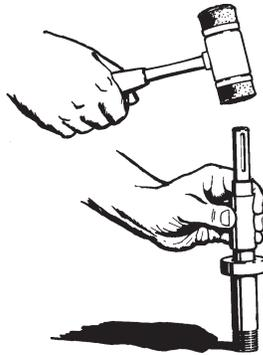

Figure 4-27
2. Insert the shaft into the pipe so the bearing is between the pipe and the shoulder of the shaft. Refer to Figure 4-27.